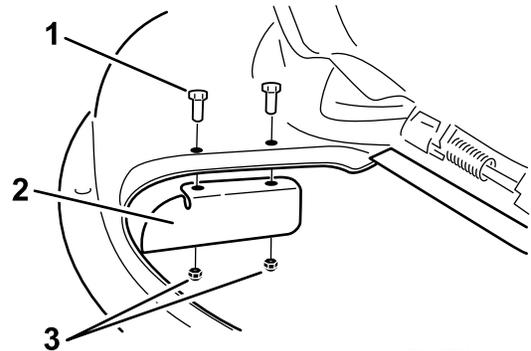

Figure 19
1. Install the cutoff baffle to the mower deck with 2 bolts (5/16 x 3/4 inch) and 2 lock nuts (5/16 inch) (Figure 19).
Note: Certain models have the cutoff baffle installed (Figure 19). Proceed to the next procedure if a cutoff baffle is installed.